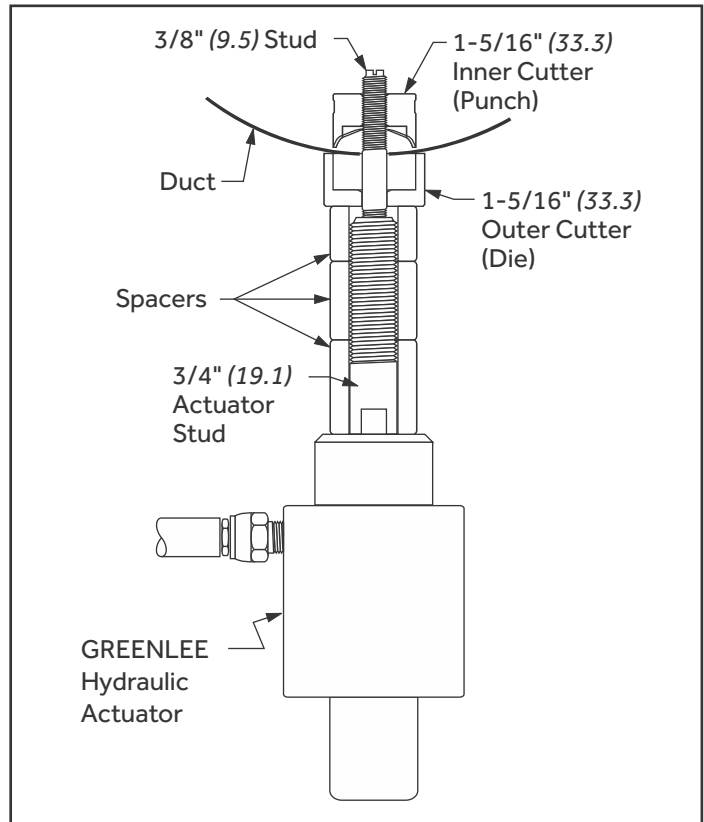

Fig. 35: 1-5/16" (33.3) Hydraulic Punch Configuration
2. 1-5/16" (33.3) PUNCH: From the Hydraulic punch kit thread the 3/8" (9.5) stud onto the end of 3/4" (19.1) draw stud of the Greenlee hydraulic actuator. Slide the three spacers onto the 3/4" (19.1) actuator draw stud. Slide the 1-5/16" (33.3) die onto the 3/8" (9.5) stud with the open end of the die facing away from the actuator. Insert the 3/8" (9.5) stud through the pilot hole in the duct. From inside the duct, thread the matching 1-5/16" (33.3) punch onto the 3/8" (9.5) stud with the cutting surfaces on the punch toward the duct. Continue threading the punch by hand until the die, duct and punch are snug. Operate the hydraulic actuator to draw the punch through the duct material. Remove the punch, die and 3/8" (9.5) stud. (Fig. 35)